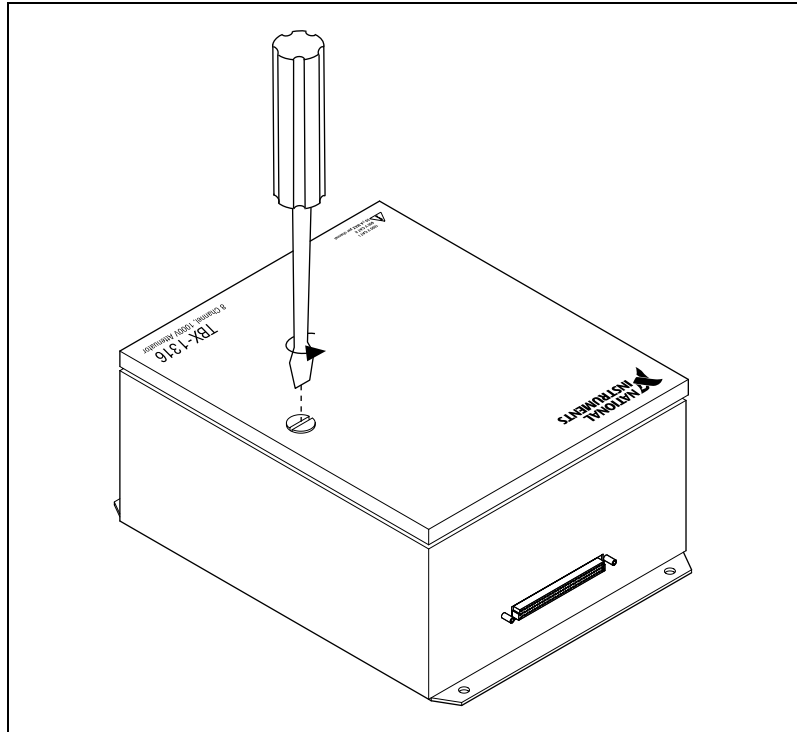

Figure 2. Opening the TBX-1316
3. While referring to Figure 2, unlock and open the enclosure door using a 3/8 in. flathead screwdriver.
To connect a signal to the TBX-1316, perform the following steps while referring to Figures 2 and 3: